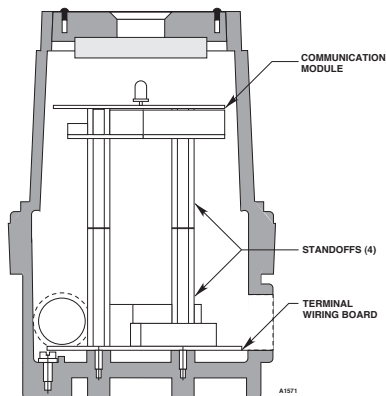

Figure 3-48—Printed Circuit Boards in Universal DCU
2. A communication module mounted above the terminal wiring board using the standoffs provided. See Figure 3-48.
Attach the communication module to the standoffs as shown in Figure 3-48. Connect the
5. Connect all external wiring to the terminal wiring board inside the DCU (if not already completed). Re-assemble the DCUEX as described in the "Wiring" section. When completed, it should look similar to the DCU as shown in Figure 3-48.